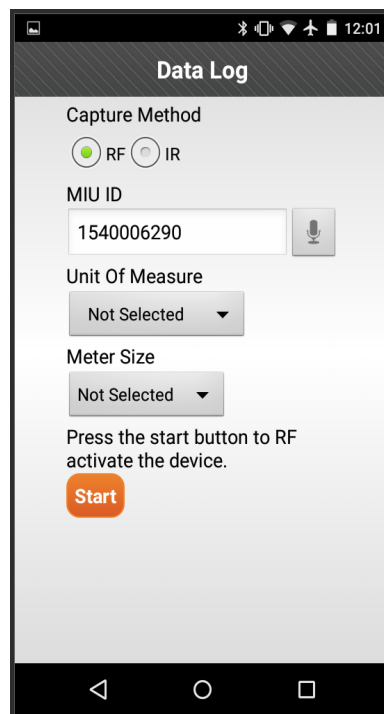

Figure 12 Connect Device Screen
See Figure 12 on page 17.
- 2 Select the **Capture Method** as shown in Figure 12.